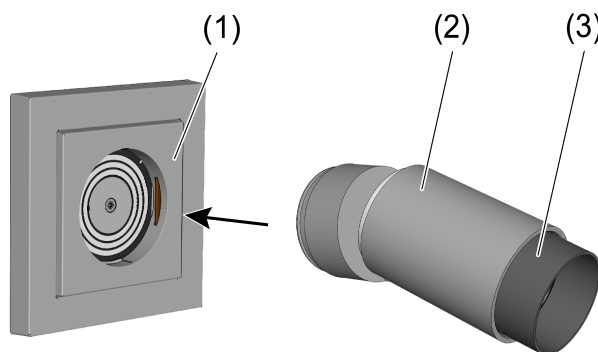

Figure 2: Mounting the light attachment
- Place the light attachment (2) on the mounted light socket (1) (Figure 2).